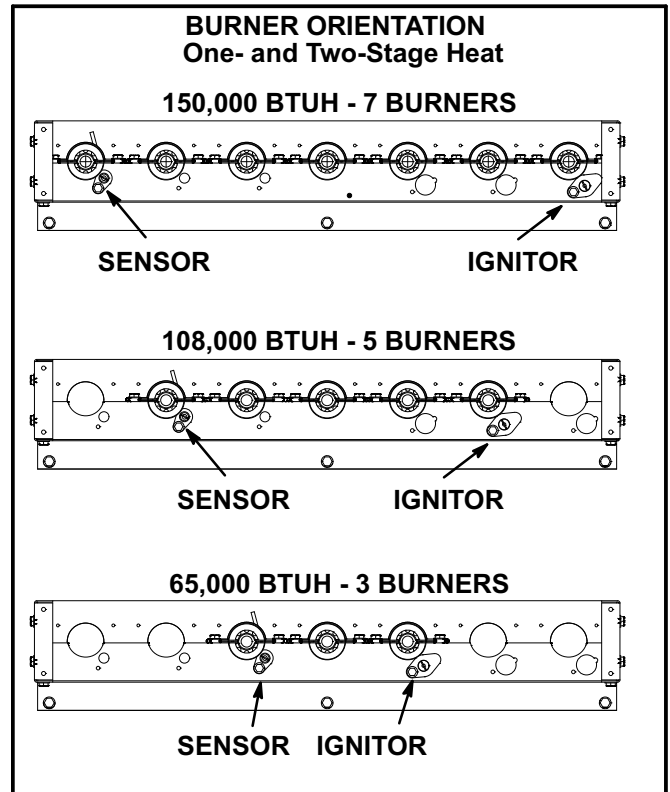

FIGURE 27
- 6- Replace burners and screws securing burner. See figure 27.